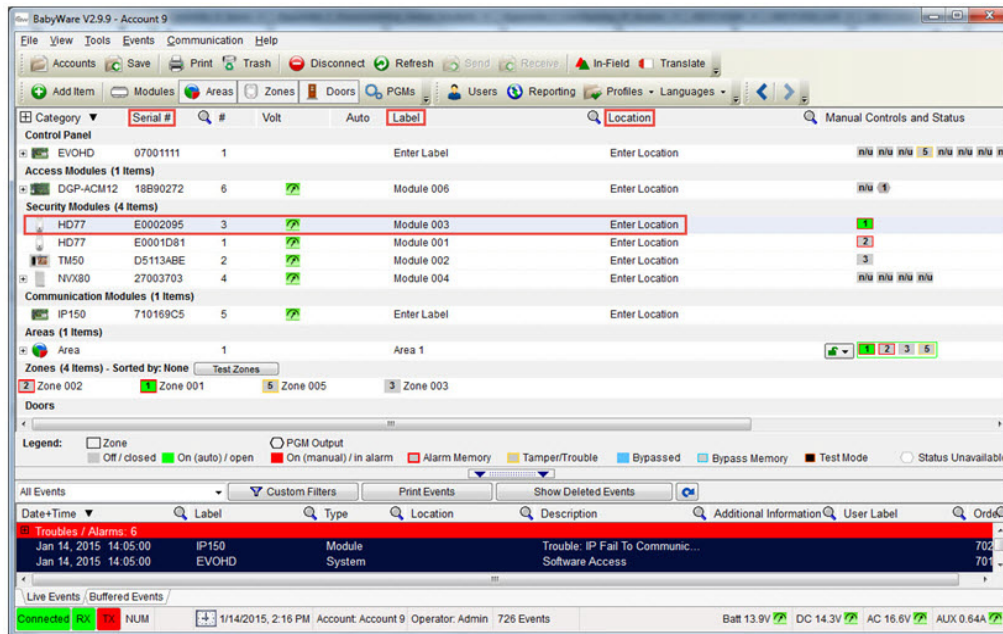

Figure 3.10 – BabyWare Home Window
- a. Double-click on the required HD77 camera in the **Security Modules** pane of the Home window (see **Figure 3.10** on page 24) OR: